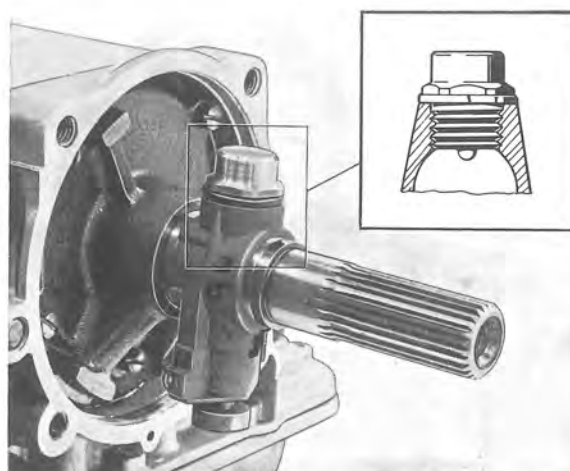

Fig. 4-103. Governor and driven shaft
5. Push the governor onto the shaft as shown in Fig. 4-103. Make sure that the pin on the bolt enters the recess on the shaft. Tighten the bolt to a torque of 20—25 Nm (15—18 lbf·ft). This tightening torque should not be exceeded.